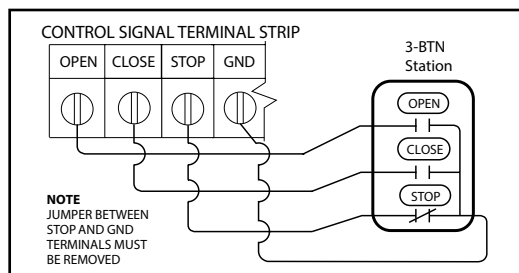

Figure 3
- 1) For a single 3 - button installation, make connections as shown in Fig. 3.